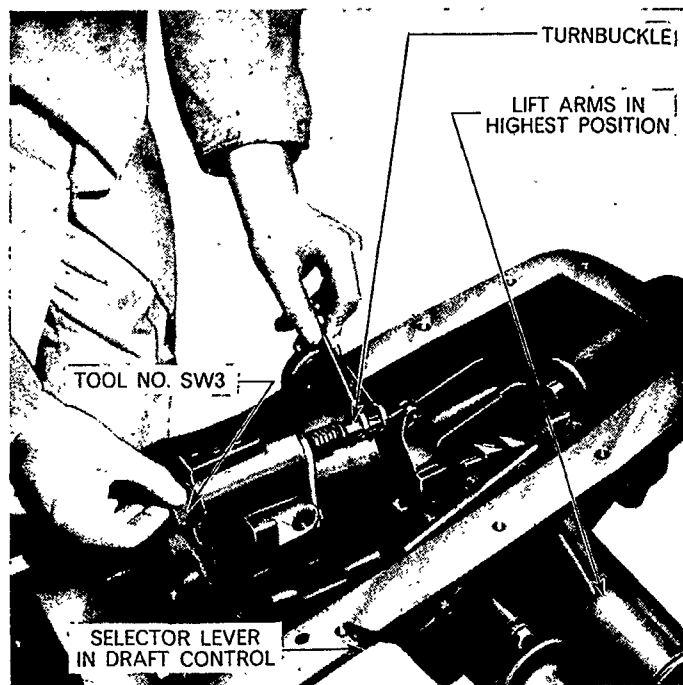

Figure 57
1. Place the selector lever in the draft control position, Figure 57.